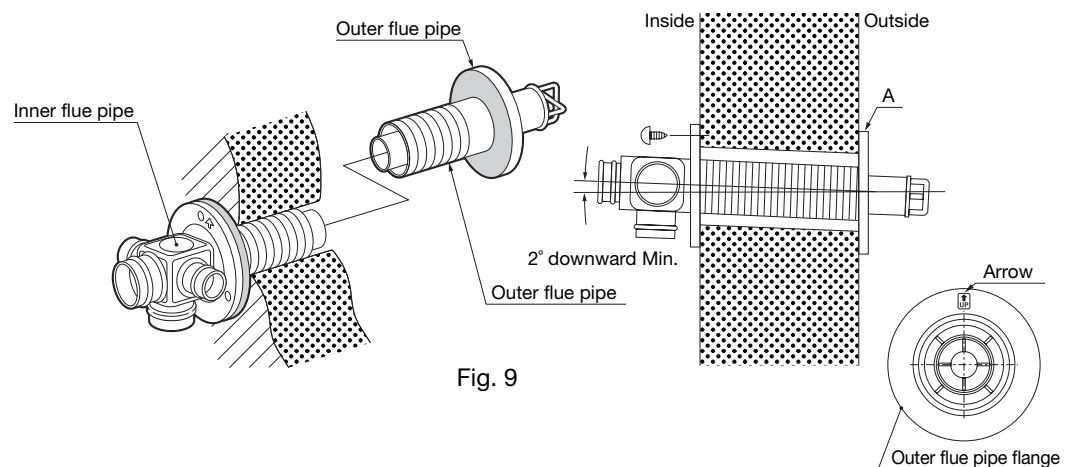

Fig. 9
c. From outside, insert the outer flue pipe through the hole. Secure the outer flue pipe to the wall by turning it clockwise. This locks the two halves together (See fig. 9).
Make sure to secure the outer flue pipe well. (A-part shown in Fig. 9)